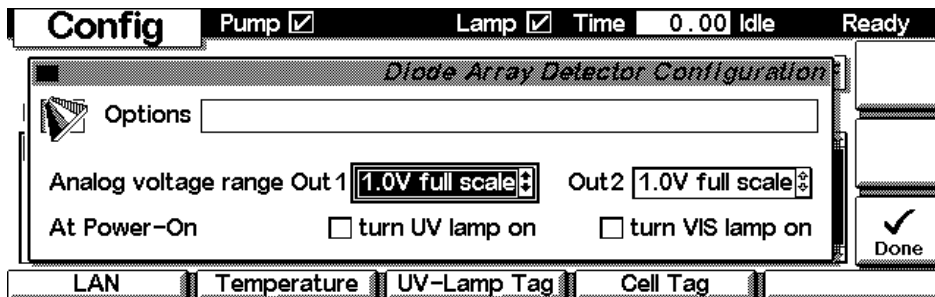

Figure 25 Select LAN
- 3 Press F1 “LAN” (Figure 25).